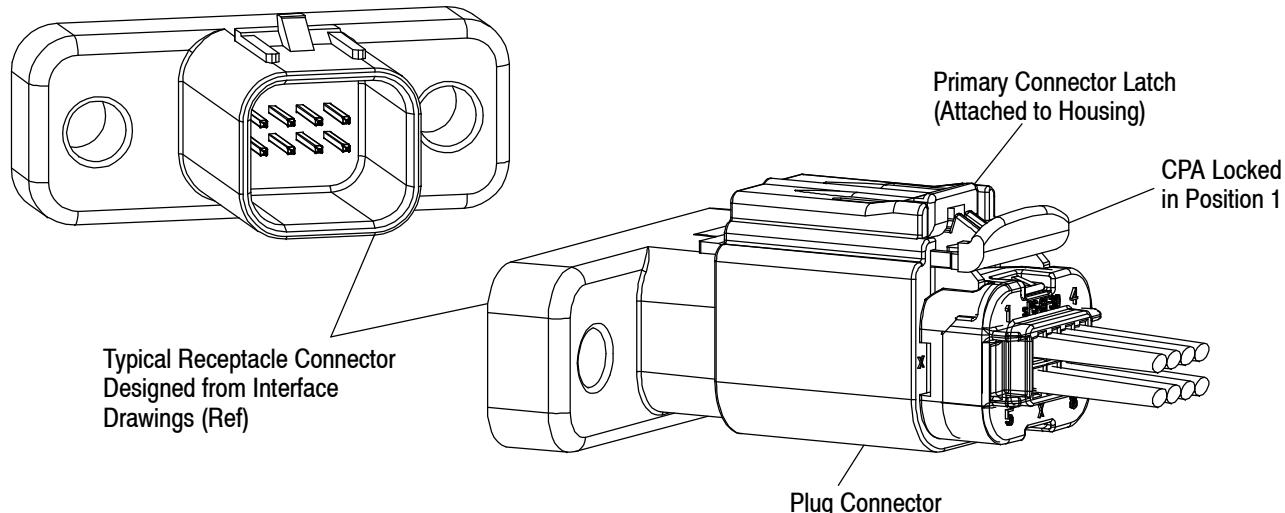

Figure 11
1. The CPA is locked in Position "1" during shipping and handling before engaging the primary connector latch. The CPA can not move forward until the connectors are mated and the primary connector latch is mated with an audible and tactile "click" and engages. Refer to Figure 11.